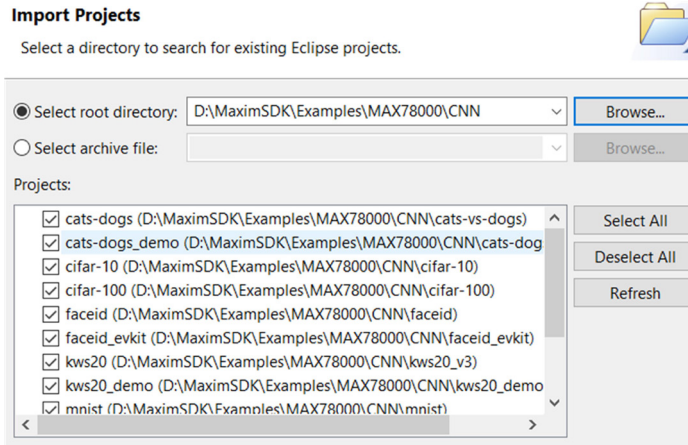

Figure 17.13 CNN demonstration programs
- Navigate to **Examples\MAX78000\CNN** and you should see a list of all the CNN based demonstration programs (Figure 17.13)